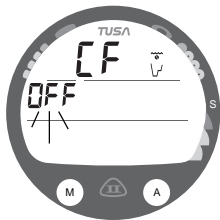

Fig. 30 - SET CONSERVATIVE FACTOR
**Set Conservative Factor**, information includes (Fig. 30):